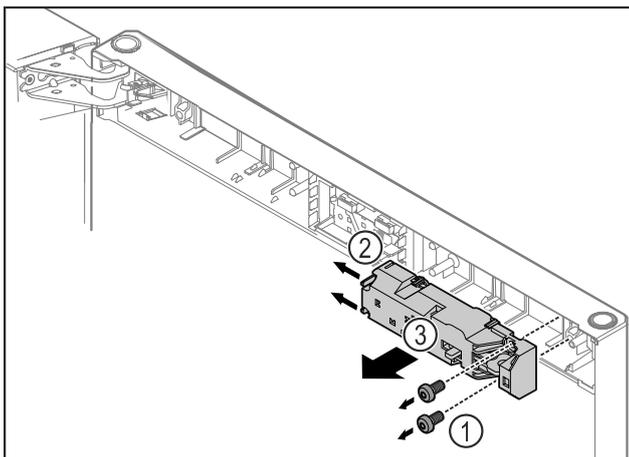

Fig. 12
- ▶ Remove the Fig. 12 (1) screws.
- ▶ Push the latching tabs Fig. 12 (2) to the side and remove the remote lock Fig. 12 (3).